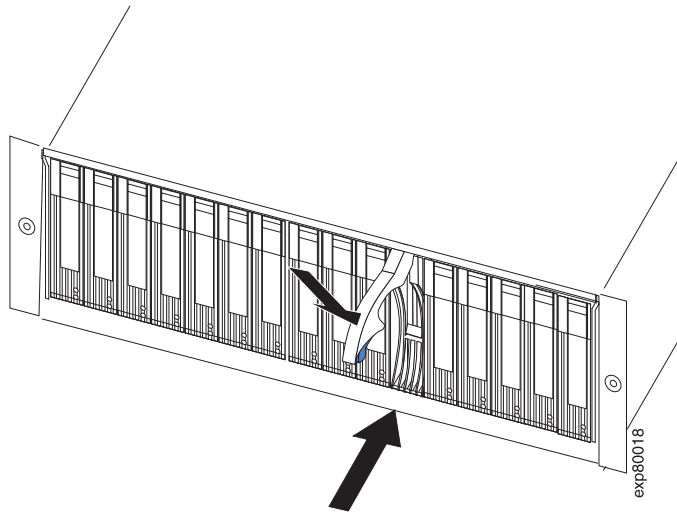

Figure 15. Removing a drive CRU
4. Pull the drive out of the bay, as shown in Figure 15 on page 30.